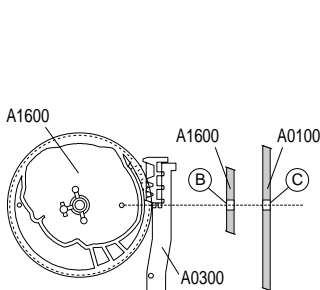
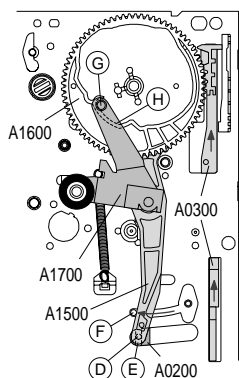

Fig. 11
Fig. 12
- Insert the pinch roller assembly (Pos. A1700, Fig. 12) so that pin (G) is in guide (H) of the camwheel Pos. A1600.
- Insert the loading slide (Pos. A0300, Fig. 12) and push it to its rear stop position.
- Insert lever (Pos. A1500, Fig. 12) so that pin (D) engages the cutout (E) of the slide (Pos. A0200).
- Push lever (Pos. A1500, Fig. 12) to its stop position (F) and hold it in this position. Insert the camwheel (Pos. A1600) so that hole (B) (Fig. 11) is above hole (C) of the mechanism chassis. In doing so, the first tooth of the threading rack gear/loading slide (Pos. A0300) must engage the first tooth space of the camwheel.